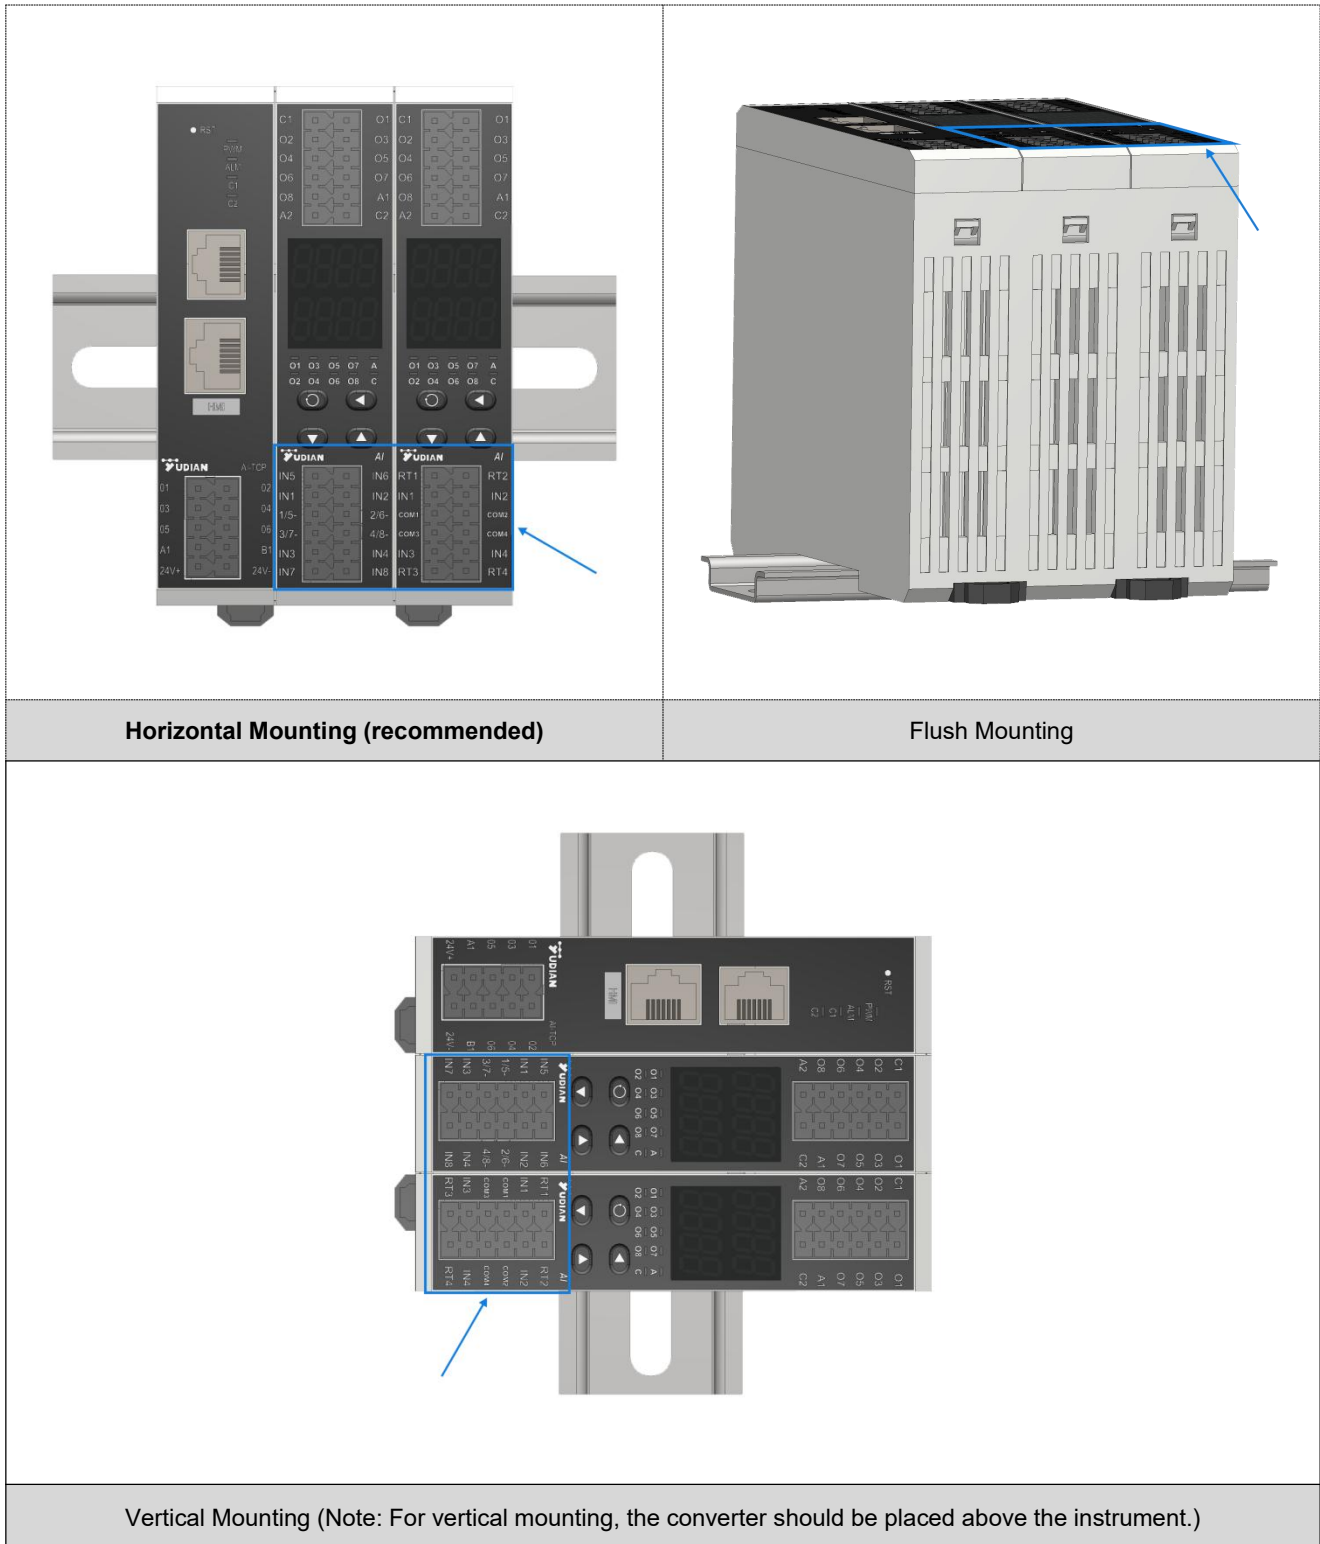

Figure 1
- (1) Please install the module onto a 35mm DIN rail.
- (2) If there are other heat-generating devices near the instrument, such as power regulators or solid-state relays, they should be installed above the instrument or on the side farther from the input terminal. As shown in the installation examples above, the input terminal is indicated by the arrow; please keep it as far away from heat sources as possible to ensure proper heat dissipation (see Figure 1).